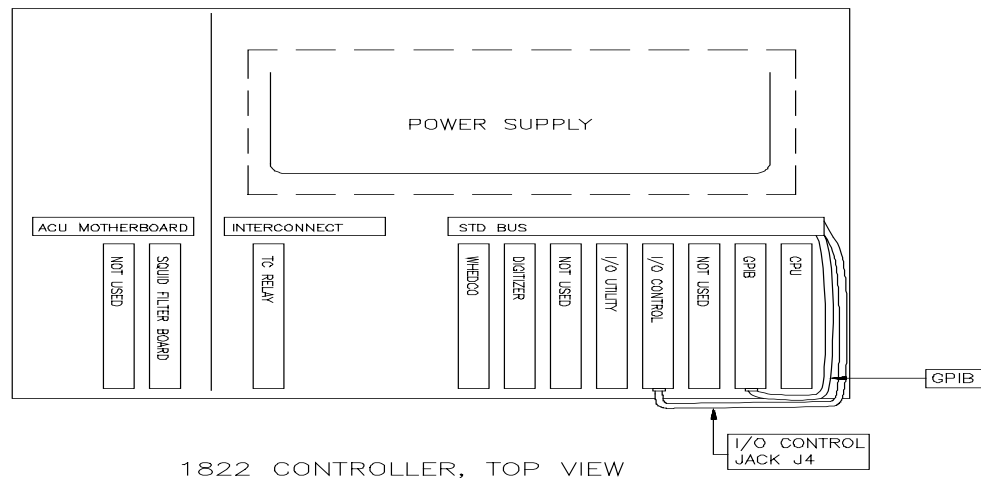

Figure 20. Reconnect the ribbon cables to their original positions with proper orientation.
11. Reconnect the GPIB and I/O Control Jack J4 ribbon cables (**Figure 20**). Be certain to connect the cables to their original positions with their original orientation (as noted upon removal).